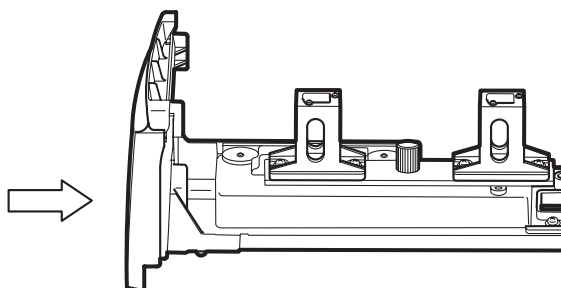

Fig.5-17 Snapping the Sample Compartment Front Cover
- 4 Snap the sample compartment front cover into the sample compartment unit in the direction of the arrow (see also Fig.5-17).